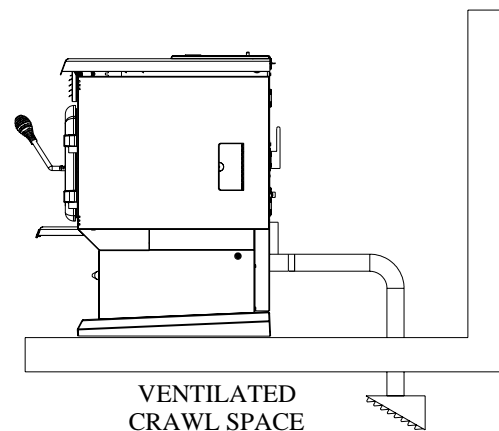

Figure 6
- A hole in floor near stove rear terminating only in a ventilated crawl space.(Figure 6)